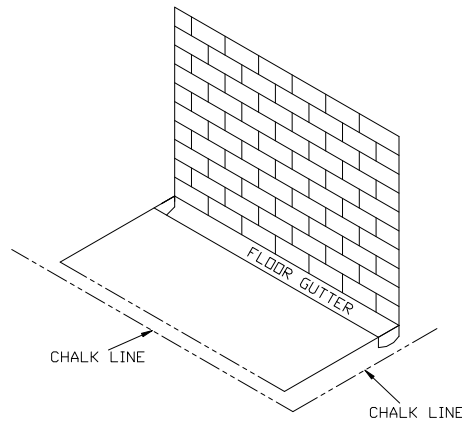

Figure 3.
1. Refer to the floor plan and select a starting point for assembling the runs (preferably on the end of a bank of runs at the intersection of the gate / stall front and outside division panel), which is best for your application. Once selected, identify the exact location of the outside corner of that run. Mark both sides of the corner on the floor with a chalk line (or other preferred method) as shown in Figure 3. **Important:** Make sure that the two lines are perpendicular and in the exact